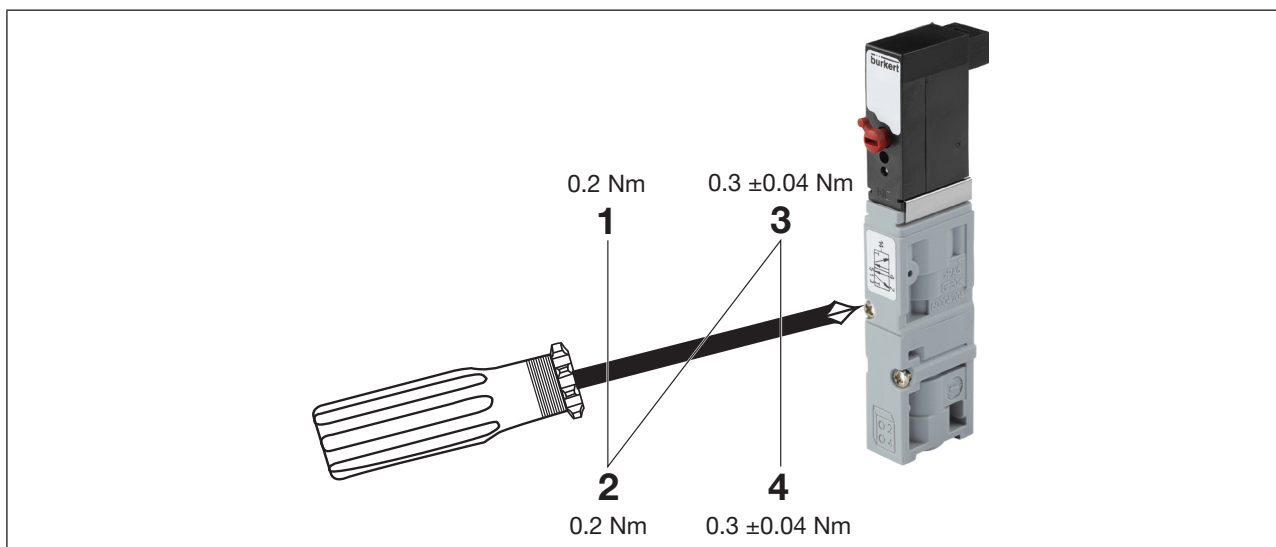

Figure 40: Tightening the screws when replacing the valve
- Tighten the fastening screws in diagonal pairs while observe the permitted tightening torque (see “Figure 40”).